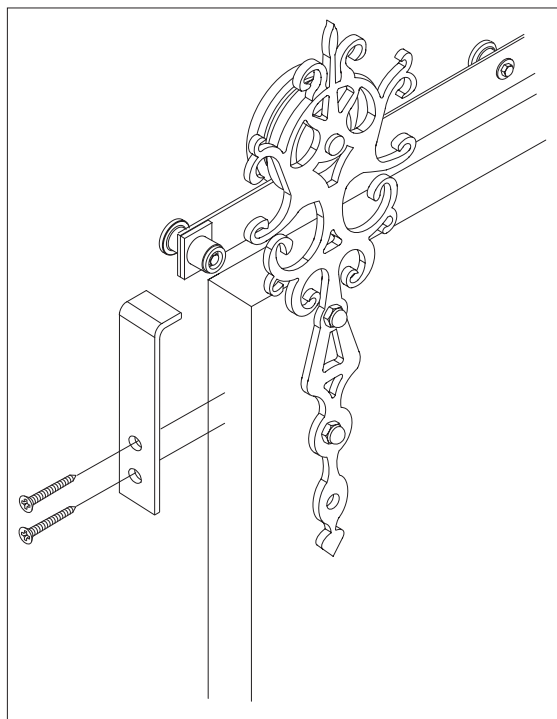

Figure 9
17. Install the bracket to the door edge with 2 phillips screws (provided) using a drill with a phillips bit. (Figure 9).